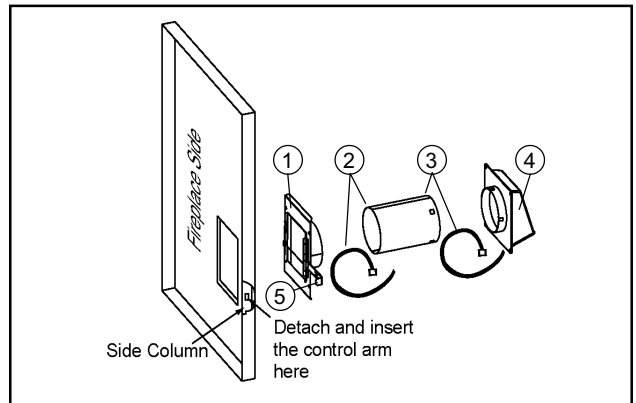

Figure 17 - Installing the Outside Air Kit
- a. **Installing the Damper of the OA Kit.** Insert the control arm through the rectangular opening in the side of the fireplace. The notches on the control arm should be placed downward. **The hinge on the damper should face toward the front of the fireplace.** If the hinge and the control arm are not positioned in this manner, the damper will not function correctly. Figure 17 demonstrates the correct order in which the air kit assembly should take place.